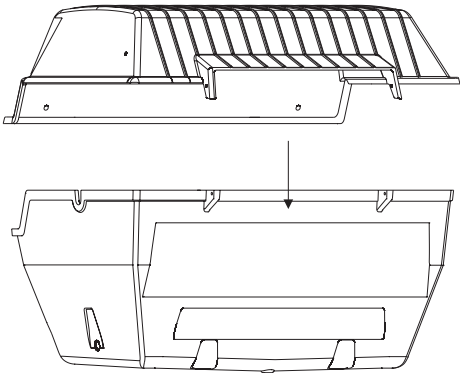

Figure 18
1. Secure grill body top to grill body bottom by replacing the two hinge pins and clips. See Figures 18 and 19.